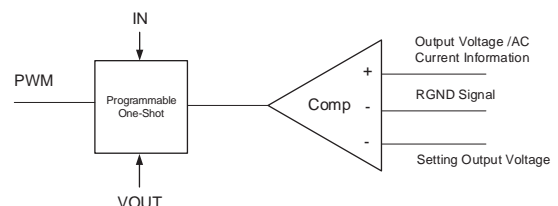

Figure 2. Simplified Control Schematic of AOZ23645RQI
The simplified control schematic is shown in Figure 2. The high-side switch on-time is determined solely by a one-shot whose pulse width is inversely proportional to input voltage (IN). The one-shot is triggered when the internal setting output voltage is higher than the combined information of output voltage and the AC current information of inductor and load line signal, which is processed and obtained through the sensed low-side MOSFET current once it turns on. The added AC current information can help the stability of constant-on time control even with pure ceramic output capacitors, which have very low ESR. The AC current information has no DC offset, which does not cause offset with output load change, which is fundamentally different from other V^2 constant-on time control schemes.